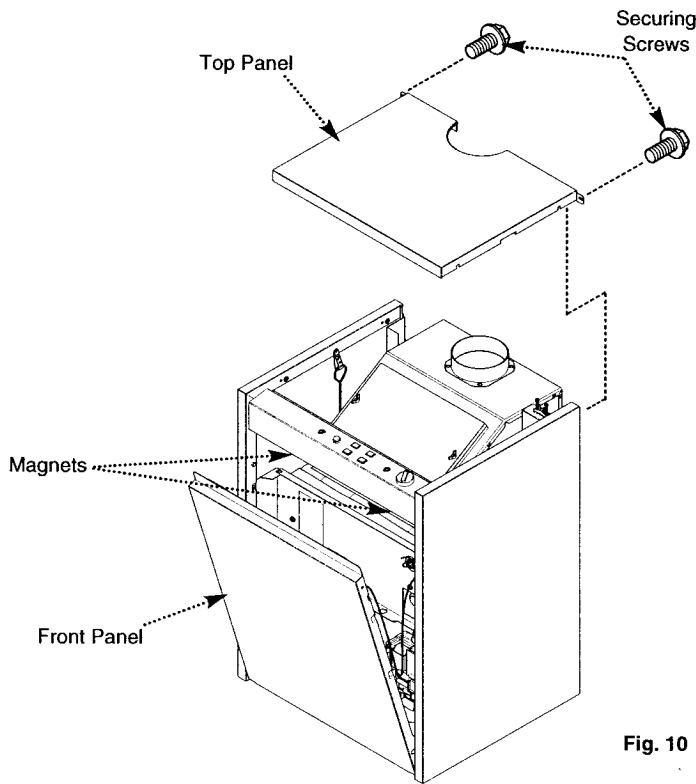

Fig. 10
5. Disengage the front panel from the retaining magnets and hinge forwards. Unhook the panel from the lower hinge pins (Fig. 10) and place to the right hand side, taking care not to stretch the earth wire.